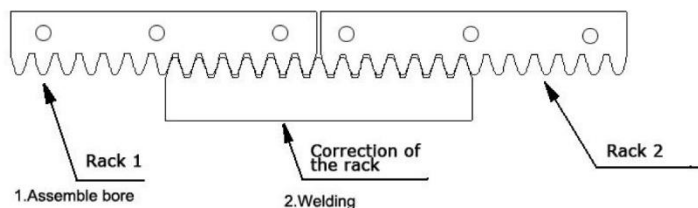

Fig 14
2.Gear rack length depend on gate length ,each gear rack is 1 metre. Put one end of rack on the output gear of motor as a temporary support.Make the rack horizontal and mark the rack mounting holes (three holes) on the gate .(Fig 14)